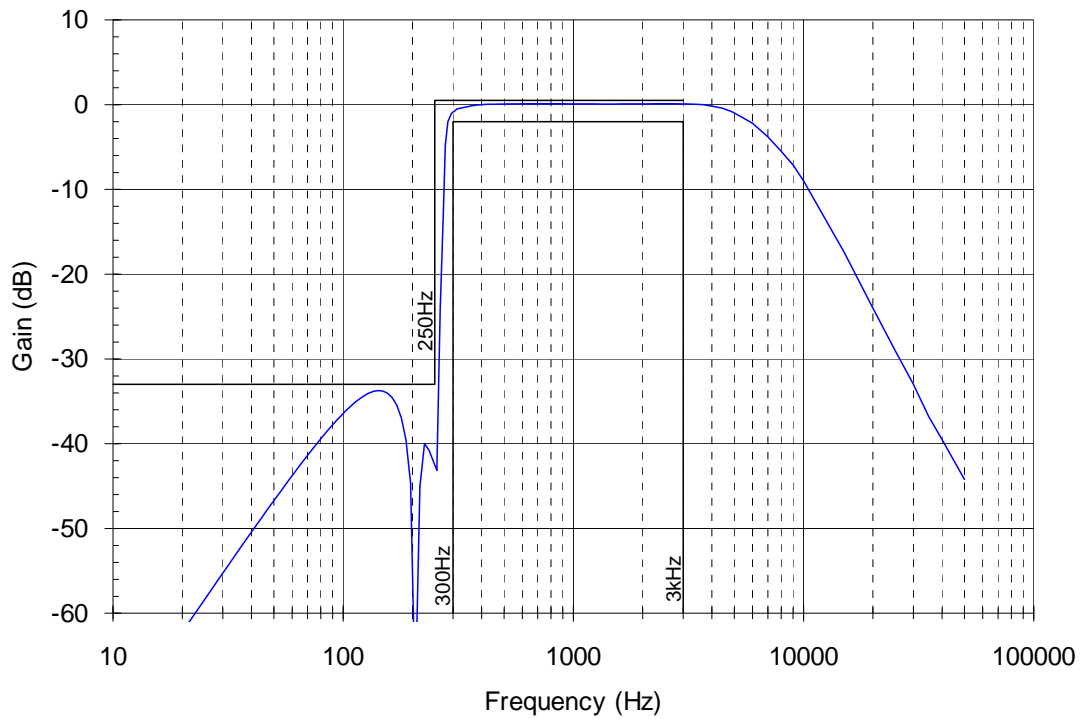

Figure 3 Typical Audio Band-Pass Filter Frequency Response
8. See filter response (Figure 3).